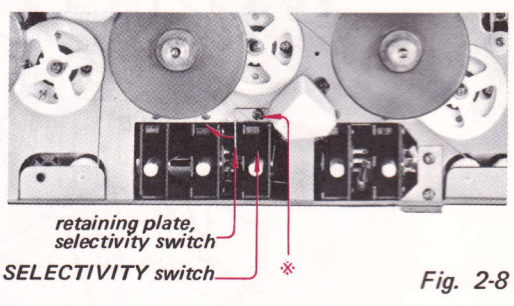

Fig. 2-8
2. Loosen the screw marked * in Fig. 2-8 and remove the selectivity switch connector from the selectivity switch retaining plate.